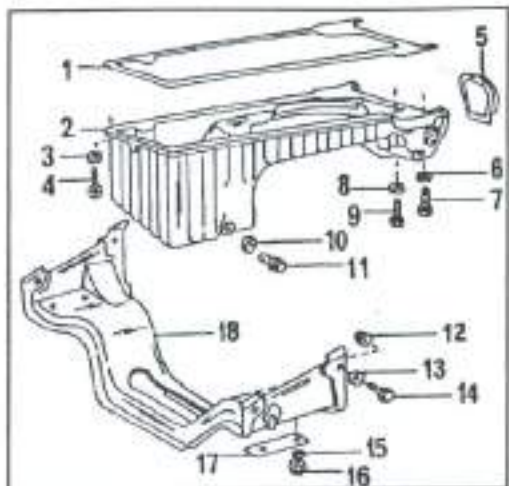

Fig. 1.79 - Details for the removal and installation of the oil sump.
- Attach a rope or chain to the brackets of the engine and lift the engine with a hoist or crane until the engine lifts enough to take the load of the rear crossmember. The jack mentioned above can also be used, but place wooden planks between jack head and power unit. Fig. 1.79 shows details of the crossmember attachment. Keep the engine in the raised position.
The installation of the oil sump is a reversal of the removal procedure. Fig. 1.79 shows the tightening torques to be observed. Finally fill the oil sump with the correct quantity of the recommended oil. Note the different filling capacities of the various engines (Page 6).